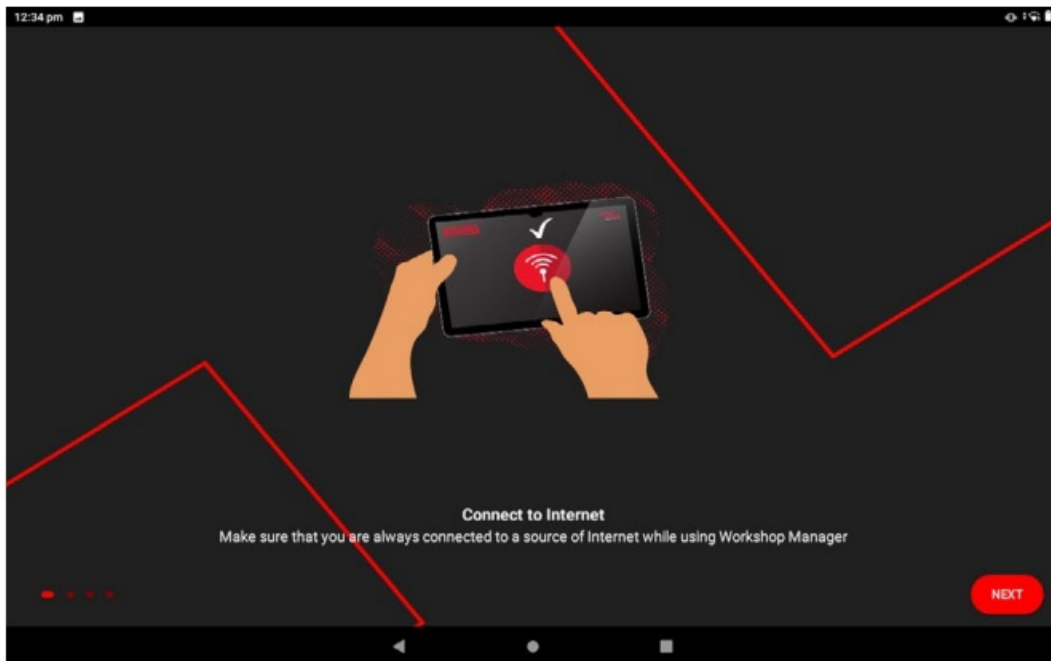

Figure 2
- **Step 4.** Internet connection required for activating Workshop Pro app (Figure 2). Please press 'Next' to proceed.